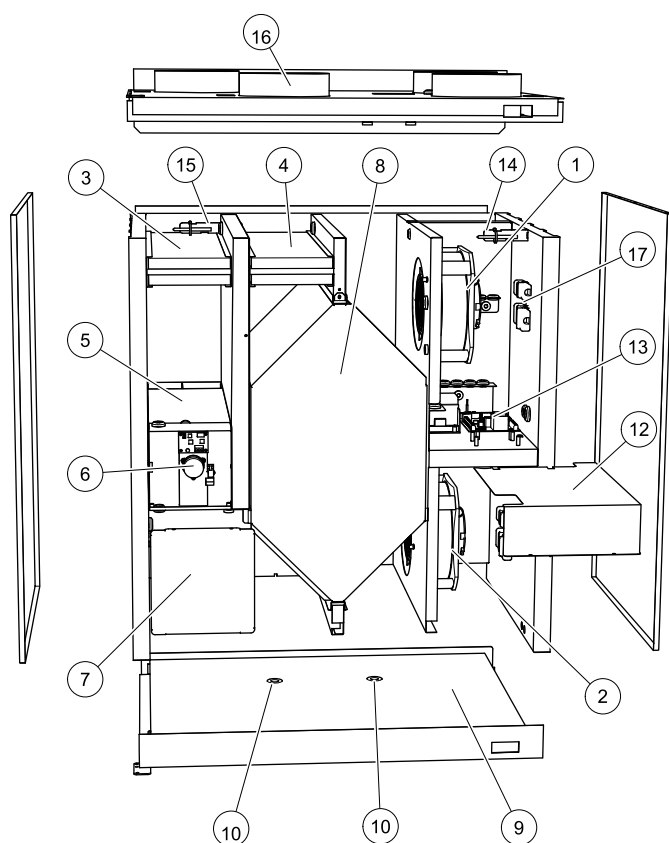

Fig. 11 Components
The fans (pos. 1 and 2 figure 11) have external rotor motors of EC type which can be steplessly controlled individually 20–100%. The motor bearings are life time lubricated and maintenance free. It is possible to remove the fans for cleaning, see “User Manual” for more information.
The built in bypass damper (pos. 5 figure 11) is involved in defrosting, cool recovery, and supply air temperature regulation of the unit. The damper motor is controlled by an analogue 0–10 V signal.
Depending on the relative humidity in the extract air, condensation may occur on the cold surfaces of the heat exchanger. The condensate water is gathered in the condensation tray (pos. 9 figure 11) in the bottom of the unit and is led out through the drainage (pos. 10 figure 11) which are situated on each side of the heat exchanger. The drainage outlets are size ½” with outer threaded tube connections (chapter 5.3.1).
The main print card (pos. 13 figure 11) controls the functions and set temperatures of the unit. It is possible to connect external accessories to terminals in the print card. See wiring diagram for more information.
- Supply air sensor (pos. 14 figure 11)
- Outdoor air sensor (pos. 15 figure 11)
- Extract air sensor (pos. 16 figure 11).
Fans do not start	<ol style="list-style-type: none"> 1. Check the display for alarms. 2. Check that all fuses and fast couplings are connected (mains supply and fast couplings for supply and extract air fans, pos. 16 figure 11). 3. Check that the week program is in ON mode. The week program might be in OFF mode with the air flow set to OFF (chapter 7.3). 4. Check if one of the digital inputs 1–3 (DI 1–3) is active and set to off. This would force one or both fans to stop depending on the setup (chapter 7.4).